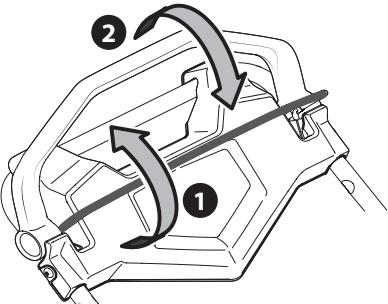

Figure 36
- Once the engine is running and while continuing to hold the blade and drive controls together, push the drive control forward to propel mower. The farther the control is pushed forward, the faster the mower will propel (Figure 36).